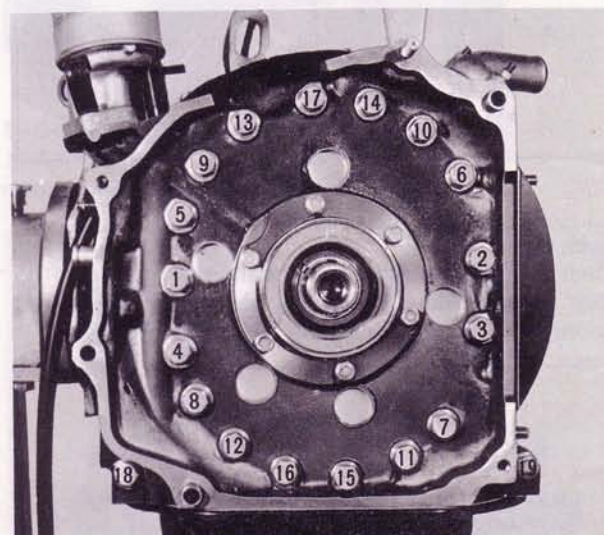

Fig. 1-75 Tension bolt tightening order
3. Fit the tension bolts and tighten the bolts gradually in the order shown in Fig. 1-75. The specified torque is 3.2 ~ 3.8 m·kg (23 ~ 27 ft·lb). Do not tighten the tension bolts at one time.